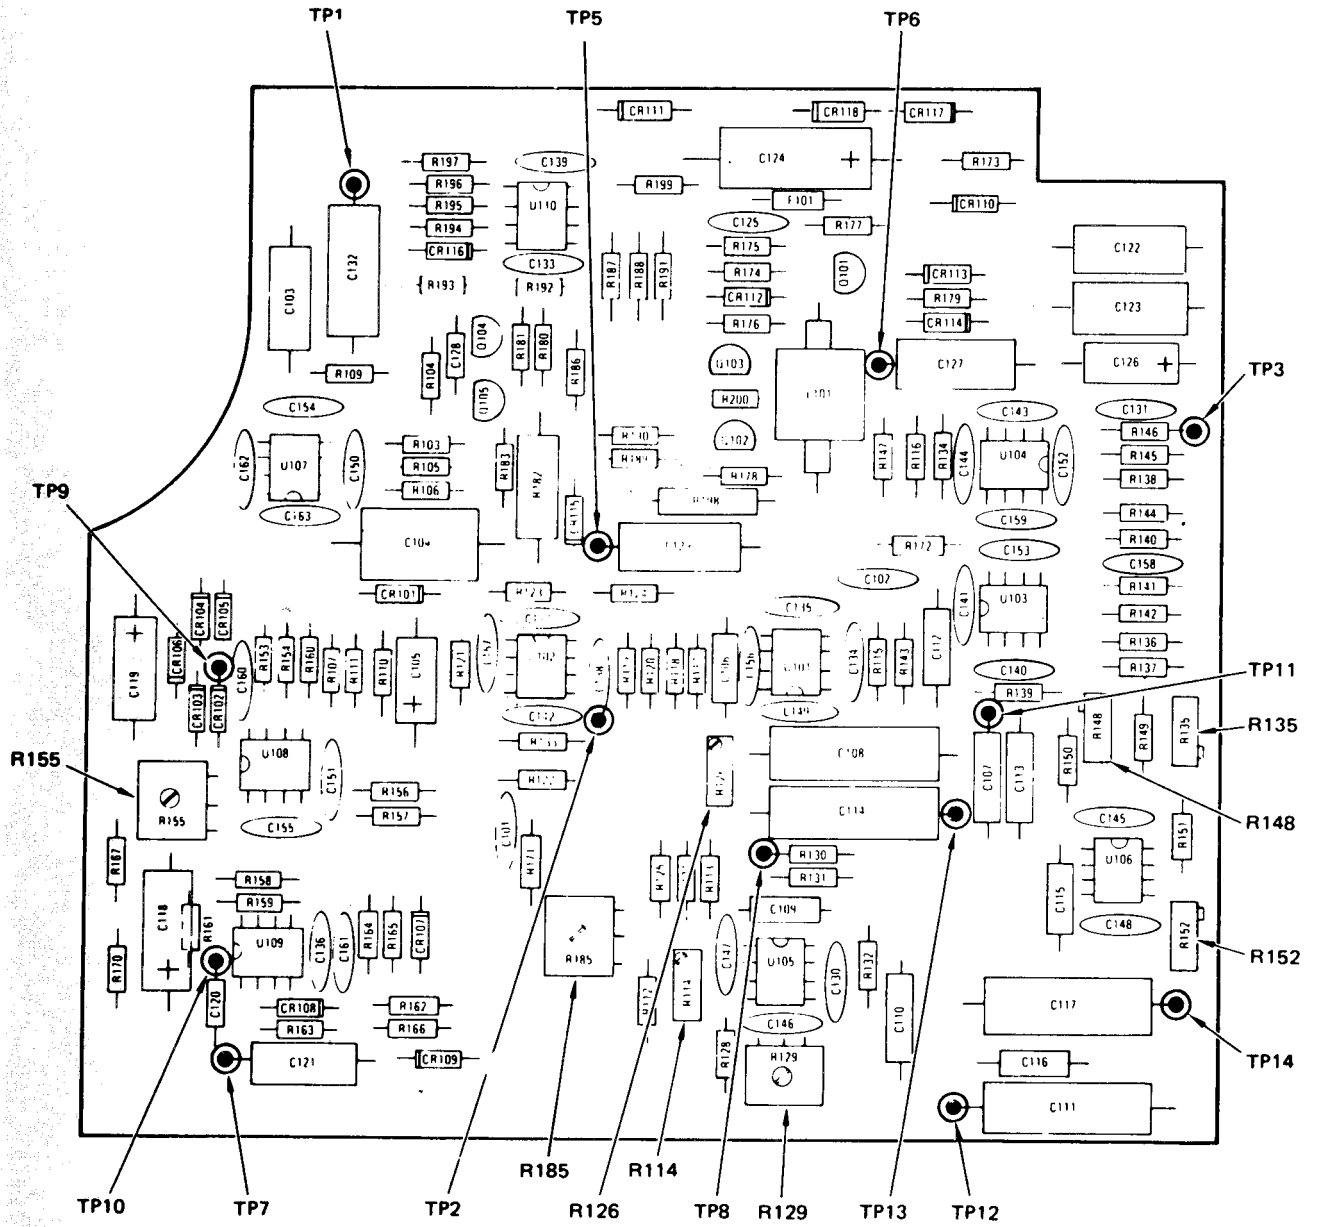
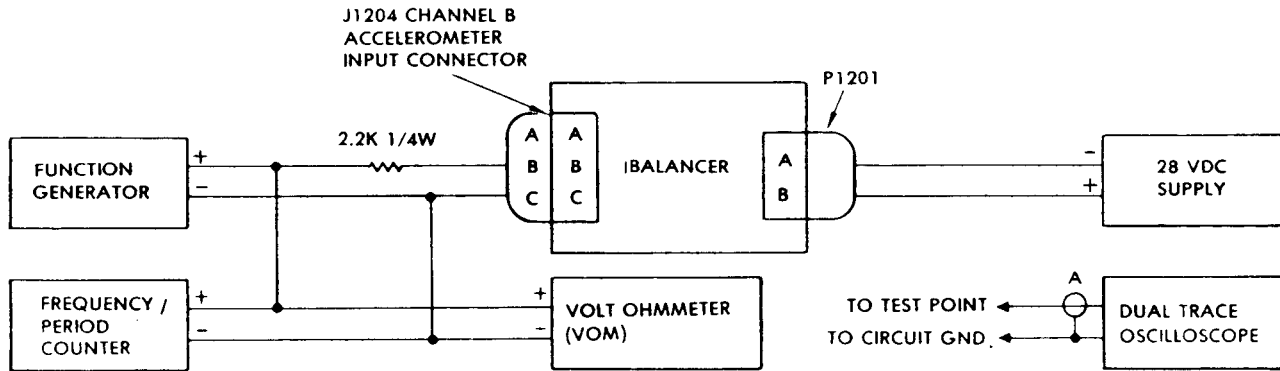

Figure 4-5. Balancer Test Points and Adjustments
Figure 4-6. Balancer Test Setup
a. Perform Balancer resistance checks as applicable in Table 4-1. Figure 4-5 shows the location of Balancer test points.
- (1) Connect +28 vdc power supply only to Balancer as shown in Figure 4-6.
- (2) Set Balancer RPM Dial to 100.
- (3) Use VOM to measure voltages at test point in Table 4-2.
(1) Connect Balancer and test equipment as shown in Figure 4-6.
(2) Set Balancer FUNCTION switch to B, R.P.M. RANGE switch to X10, and R.P.M. TUNE dial to 999.
(3) Connect oscilloscope to function generator output and set up function generator for a sine wave output of 166 Hz at 80 mV rms.
(4) Press and hold VERIFY TUNE switch and adjust frequency of function generator for a peak indication on IPS meter. Verify that frequency /period counter indicates 166.6 ± 3.3 Hz. Release VERIFY TUNE switch.
(5) Adjust output of function generator (do not change frequency) for a full scale indication on IPS meter. Verify that VOM indicates $115 \text{ mV} \pm 5\%$.
(6) Disconnect oscilloscope from function generator and set up oscilloscope to measure amplitude of signal at each test point listed in Table 4-3, Part A, and illustrated in Figure 4-5. Verify that oscilloscope indication correspond to Table 4-3.
(7) Set R.P.M. RANGE switch to X1.
(8) Connect oscilloscope to function generator and set function generator output to 16.66 Hz at 11.5 mV.
(9) Press and hold VERIFY TUNE switch and adjust frequency of function generator for peak indication on IPS meter. Verify that frequency/period counter indicates 16.66 ± 0.33 Hz. Release VERIFY TUNE switch.
(10) adjust output of function generator (do not change frequency) for a full scale indication on IPS meter. Verify that VOM indicates $11.5 \text{ mV} \pm 5\%$.
(11) Disconnect oscilloscope from function generator and set up oscilloscope to measure amplitude of signal at each test point listed in Table 4-3, Part B. Verify that oscilloscope indications correspond to Table 4-3.
(12) Set R.P.M. RANGE switch to X10 and R.P.M. TUNE dial to 100.
(13) Press and hold VERIFY TUNE switch and adjust frequency of function generator for a peak indication on IPS meter. Verify that frequency/period counter indicates 16.66 ± 0.33 Hz. Release VERIFY TUNE switch.
(14) Adjust output of function generator (do not change frequency) for a full scale indication on IPS meter.
(15) Set up oscilloscope to measure amplitude of signal at each test point listed in Table 4-3, Part C. Verify that oscilloscope indications correspond to Table 4-3.
(16) If Functional tests indicate all circuits are functioning properly, perform adjustments in paragraph 4-20a to align balancer section.